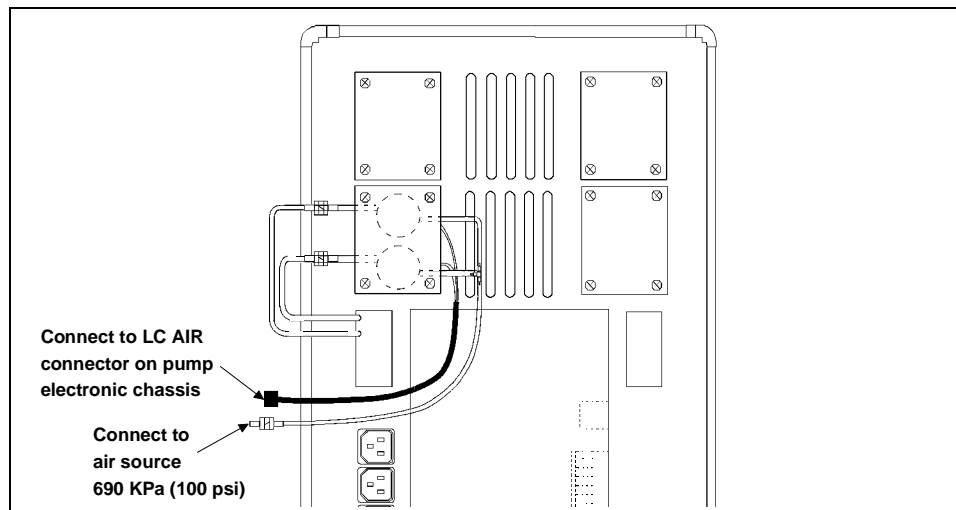

Figure B-12. LC30 Rear Panel Air Connections
1. Locate the 1.57-mm ID (0.063-in) polyurethane air line tubing (P/N 047203) in the LC30 Ship Kit. Cut the tubing to the length needed to connect the air-in line extending from the solenoid valves on the rear panel to the source of gas/air pressure (see Figure B-12).
- Connect the electrical cable extending from the solenoid valves to the **LC AIR** connector on the GP40 or IP20 pump electronic chassis (see Figures B-12 and B-13). The electronic chassis is located behind the pump's upper door.